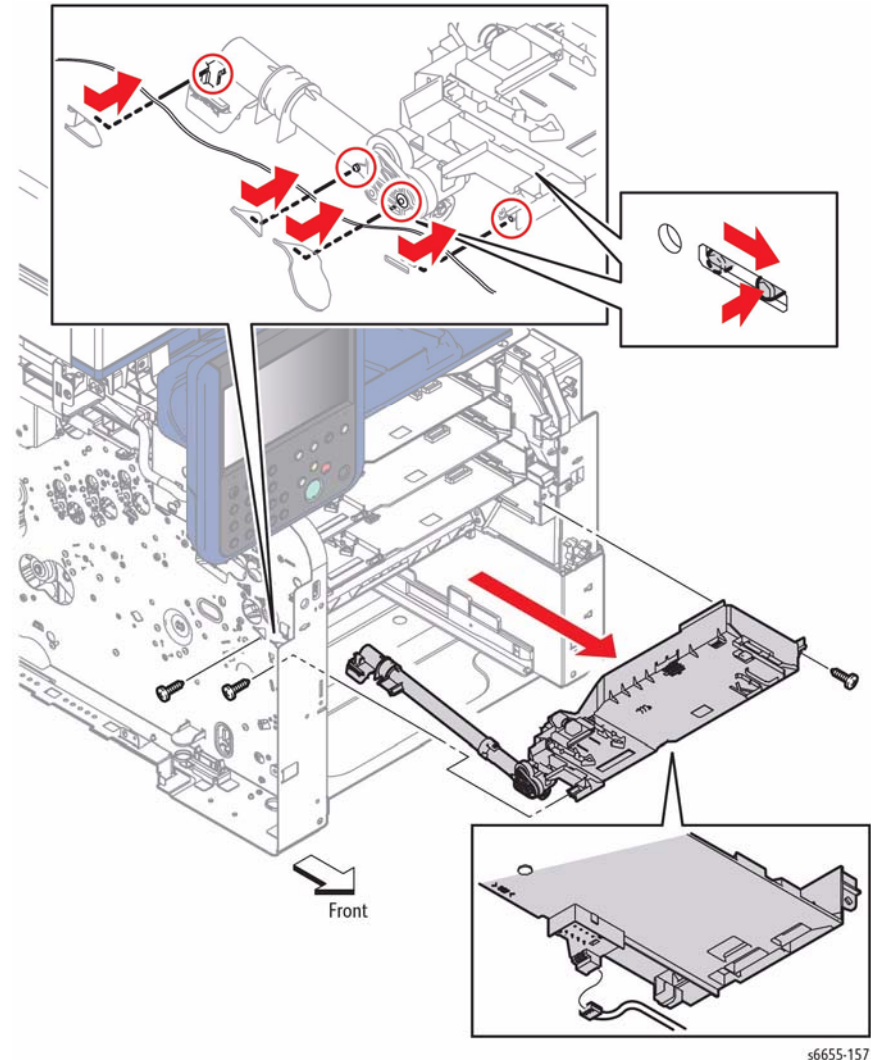

Figure 1 Remove the Dispenser Assembly Kit
5. Refer to Figure 1 to locate and disconnect the CRUM Board connector on the bottom of the Dispenser Assembly K.
6. Refer to Figure 1 to locate and remove the three screws (silver, tapping, 8 mm) that attach the Dispenser Assembly K and pull the Dispenser Assembly K to the front while pressing the lug on the left side inward with a screwdriver.